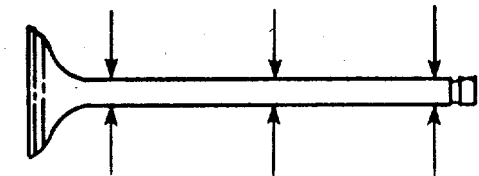

FIGURE 4-11. Measuring Valve Stem Diameter.
- (3) Inspect for abnormal wear on valve heads and stems. Measure the valve stem diameter as shown in FIGURE 4-11. Table 4-2 gives minimum (MIN) and maximum (MAX) diameter.